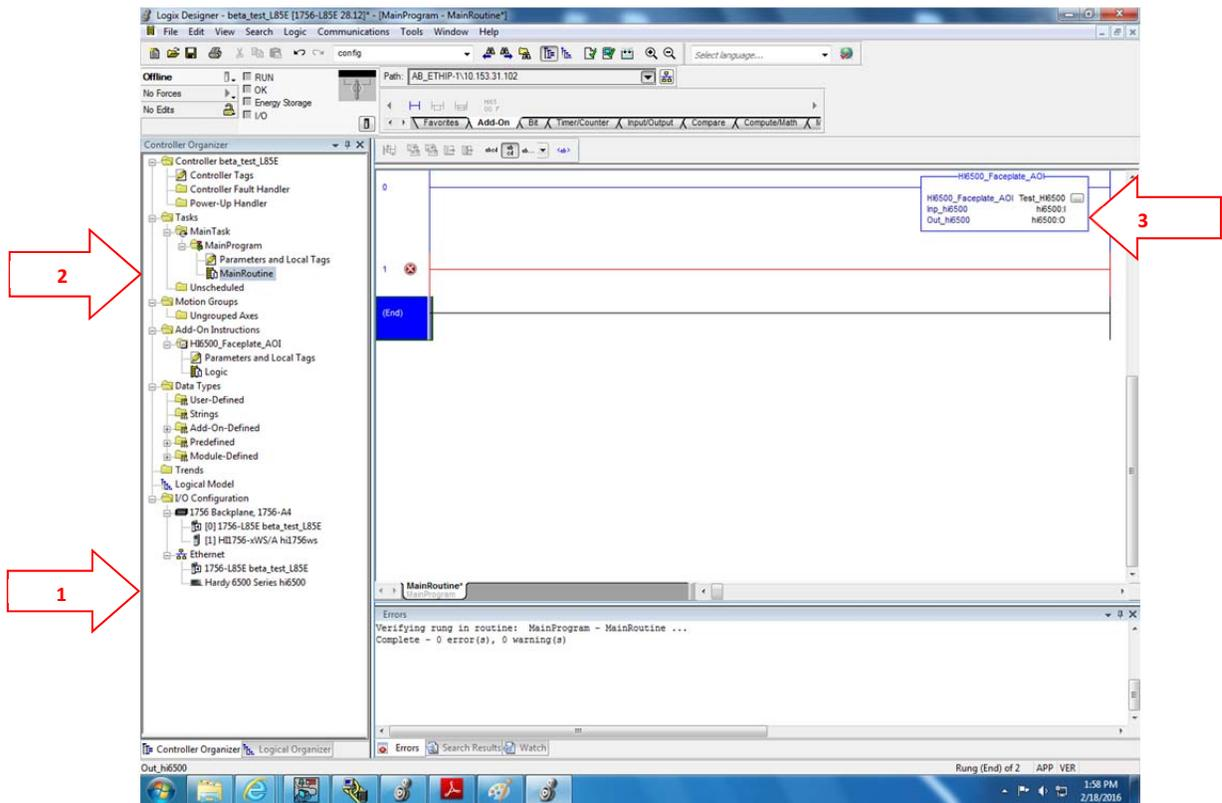

Figure 2
- Add the HI 6500 instrument to the I/O configuration structure. See Figure 2, note 1. Each instrument added should have a unique name.
- Add the AOI onto the main routine. See Figure 2, note 2.
- Give the HI6500_Faceplate_AOI a name and create the tag. This will be a "HI6500_Faceplate_AOI" data type. Any name with alpha-numeric characters is valid. See Figure 2, note 3.
- Inp_hi6500: Associate this label with the Input table for the HI 6500 instrument. Click and drop down the list to find the input tables for each device. Choose the one for the HI 6500 unit by its name in the controller tags. See Figure 2, note 3.
- Out_hi6500: Associate this label with the Output table for the HI 6500 instrument. Click and drop down the list to find the output tables for each device. Choose the one for the HI 6500 unit by its name in the controller tags. See Figure 2, note 3.